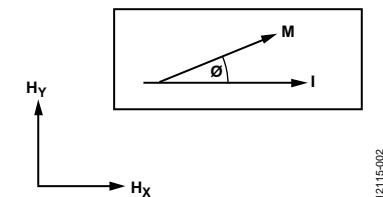

Figure 2. Anisotropic Magnetoresistive Example
An example of the AMR effect is shown in Figure 2. A current (I), flowing through a conductor, is subject to an external magnetic field (Hy). The resistance of the conductor changes as a function of the angle (θ) between the magnetization vector (M) and the current flow vector (I). The magnetization vector is the net sum of the internal magnetic field (Hx) and the applied external magnetic field (Hy).